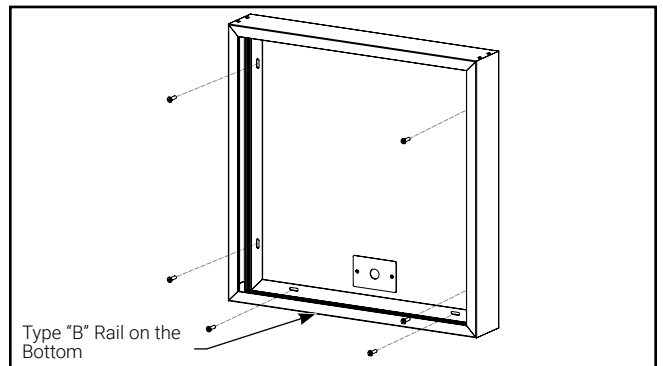

Figure 11.
Note: It is recommended to mount the box such that the supply conductor junction box is located at one end of the box. This will ensure there is enough free space inside the box for excess flexible metal conduit. (Figure 11.)
- B3. Attach box to wall using appropriate hardware (not included) to secure both type "A" rails and the bottom type "B" rail to the surface. Ensure the box remains square when mounting. The spacing of the mounting slots is 16 inches center-to-center. (Figure 11.)